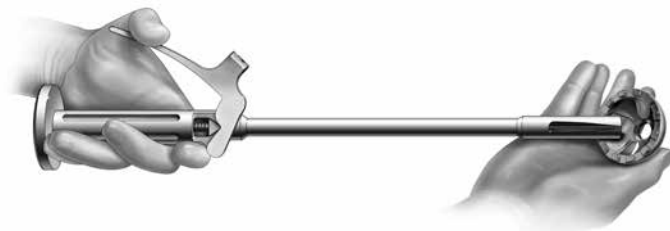

Figure 2
3. Assemble the appropriately sized Acetabular Shell Trial onto the Acetabular Shell Impactor by squeezing the handle of the Shell Impactor and inserting the tip into the recessed area at the apex of the shell. Release the handle to engage the Shell Impactor (Figure 2).